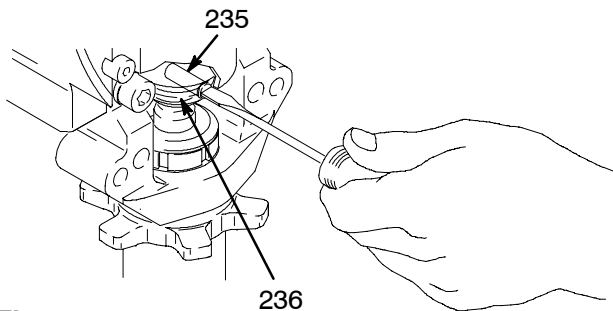

Fig. 1
3. Unscrew suction tube (34) from pump, hold wrench on pump intake valve (A) to keep pump from loosening.
4. Disconnect pump outlet hose (100) from displacement pump outlet nipple (60).
5. Fig. 1. Use screwdriver to push up retaining spring (236) at top of pump. Push out pin (235).